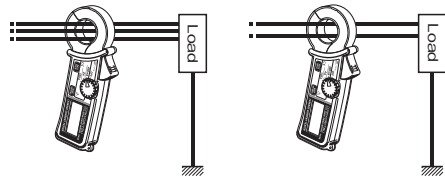

Fig. 1 Measuring out of balance leakage current
- (1) Set the Range Selector Switch to the desired position. Current to measure should be within the selected measuring range.
- (2) Measuring out of balance leakage current (See Fig.1): Clamp onto all conductors except a grounded wire. Measured current value is shown on the display.